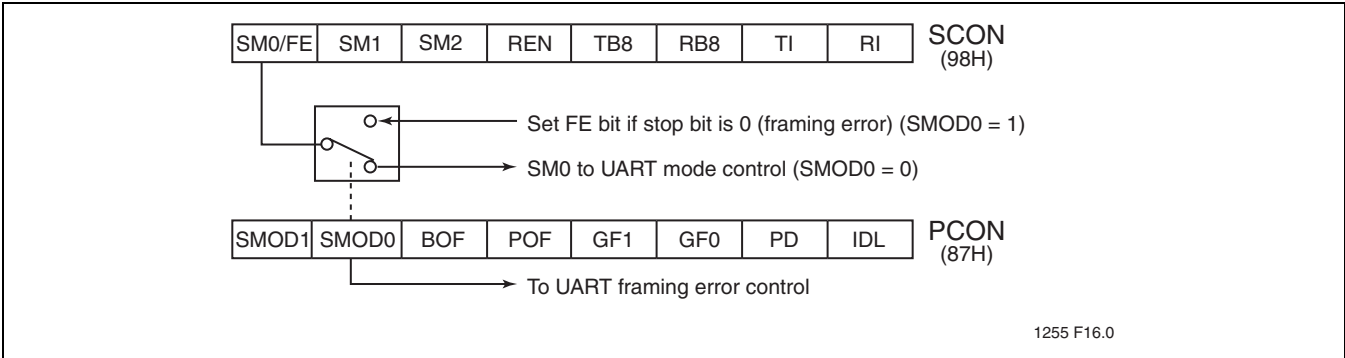
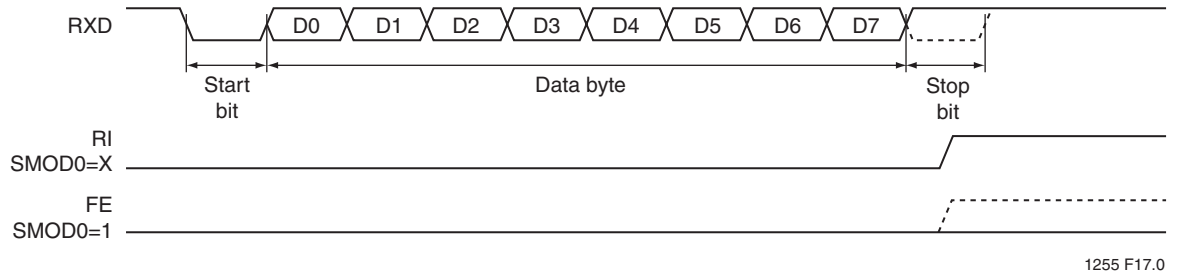
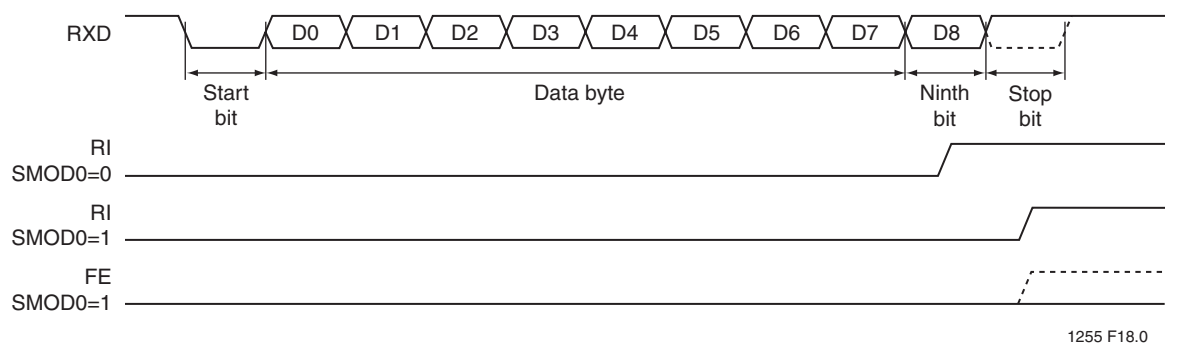

FIGURE 6-1: Framing Error Block Diagram
FIGURE 6-2: UART Timings in Mode 1
FIGURE 6-3: UART Timings in Modes 2 and 3
Framing Error Detection is selected by going to the PCON register and changing SMOD0 = 1 (see Figure 6-1). If a stop bit is missing, the Framing Error bit (FE) will be set. Software may examine the FE bit after each reception to check for data errors. After the FE bit has been set, it can only be cleared by software. Valid stop bits do not clear FE. When FE is enabled, RI rises on the stop bit, instead of the last data bit (see Figure 6-2 and Figure 6-3).